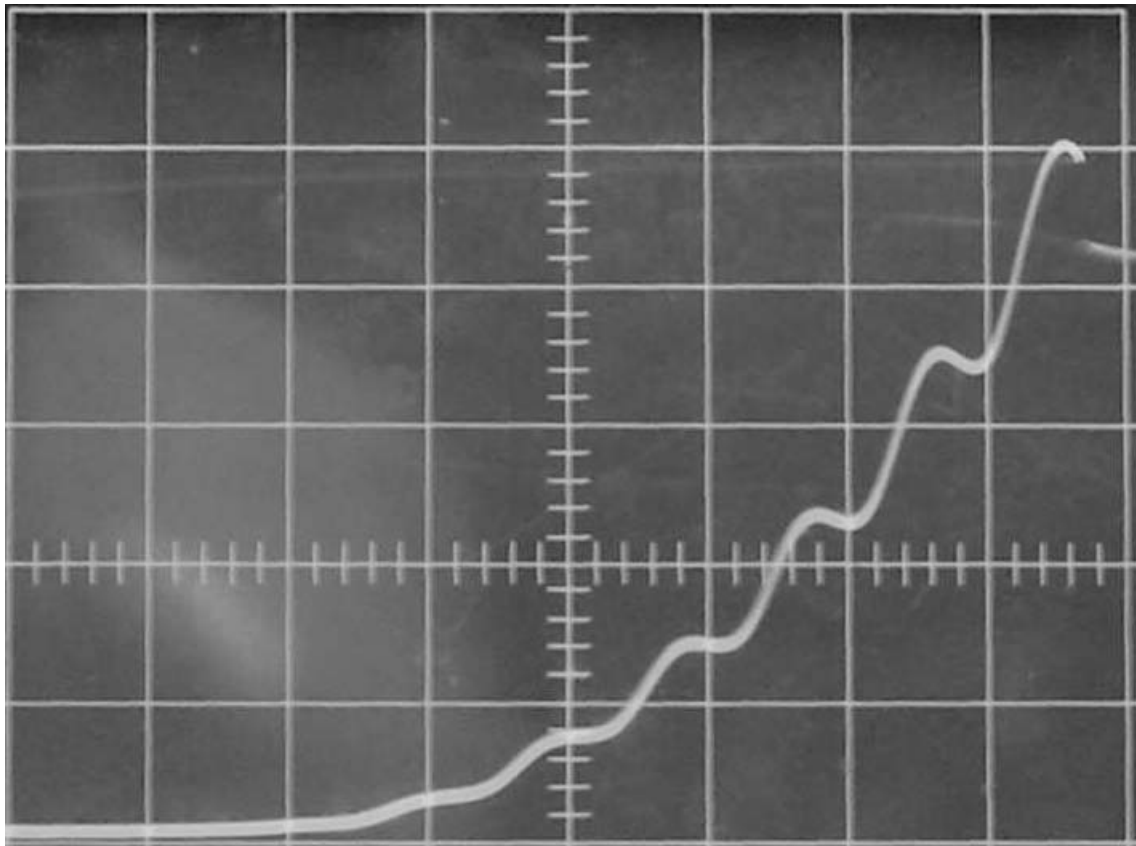

Fig. 4: Franck-Hertz-Experiments with the Hg-tube: Saw tooth measurement displayed by an Oscilloscope.
B) Set the following parameters with pushbutton (2) and rotary switch (13).
C) Switch on the oven with pushbutton (4). The red LED above pushbutton (4) continues to flash until the target temperature is reached.
D) Set to "saw tooth" with pushbutton (3). Connect outputs (7) and (8) to the oscilloscope, then select the XY operating mode for the oscilloscope. Start measurement with pushbutton (5). In this "saw tooth" mode, the voltages set for U_1 and U_2 are applied to the Hg-tube with a frequency of 28 Hz. The typical Franck-Hertz curve that results is shown in Fig. 4.